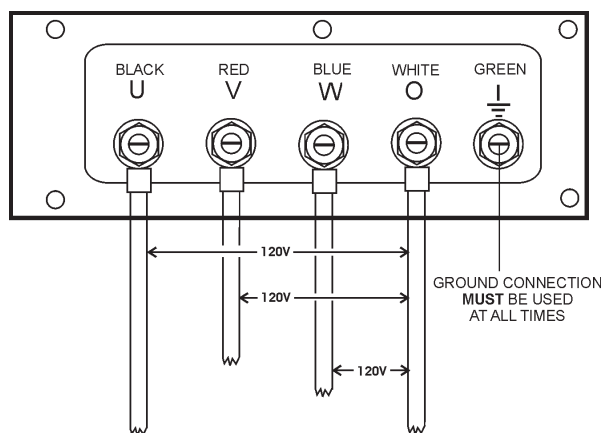

Figure 26. UVWO Terminal Lugs 1Ø-120V Connections
2. Connect the load wires to the UVWO terminals as shown in Figure 26.